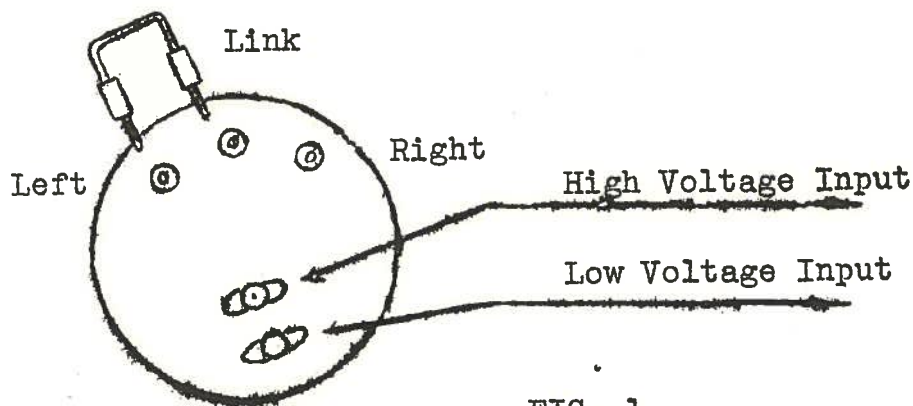

FIG. 1
A. Input Connections: The voltage to be viewed is connected to the appropriate input connection on the end of the scope. If this voltage is greater than 2000 V., connect the input to the high voltage connection, Figure 1, and place the link to the right. If this voltage is less than 2000 V., connect the input to the low voltage terminal, Figure 1, and place the link to the left.